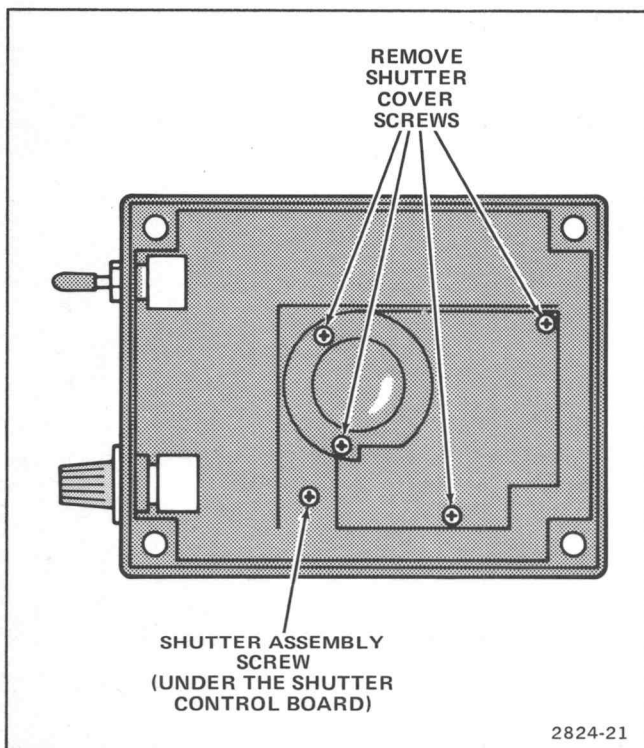

Figure 5-9. Removal of shutter assembly.
2. Remove the four screws holding the shutter cover in place (shown in Figure 5-9) and lift out both the cover and optical lens assembly.